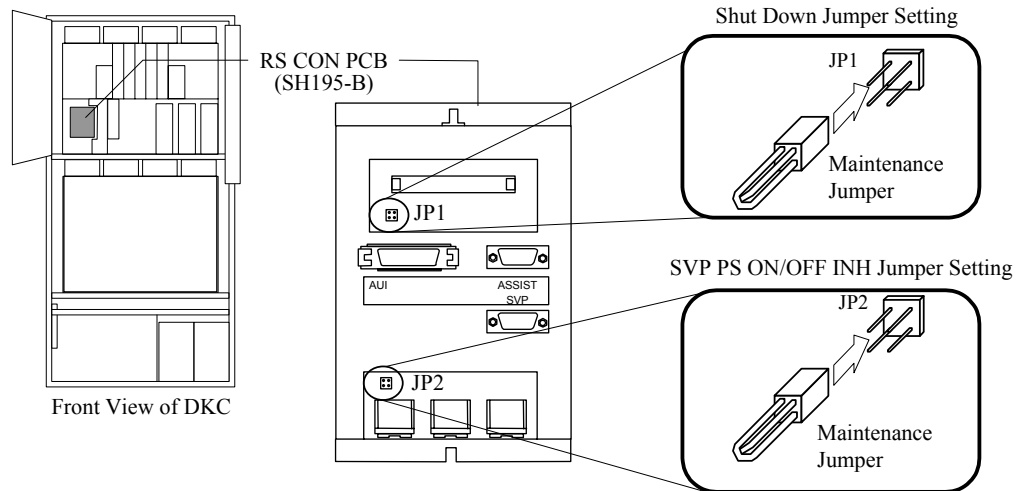

Fig. T7.1-3 Jumper settings of RS CON PCB
- Remove the maintenance jumper of the JP1 on the RS CON PCB. (See Fig. T7.1-3.)
- Insert the maintenance jumper into the JP2 on the RS CON PCB. (See Fig. T7.1-3.)
Insert the maintenance jumper into JP1 on the RS CON PCB. (See Fig. T7.1-3 [REP03-480].)
9. Pull out the maintenance jumper on the RS CON PCB or SVPPS BOX. (See Fig. T7.1-3 [REP03-480].)